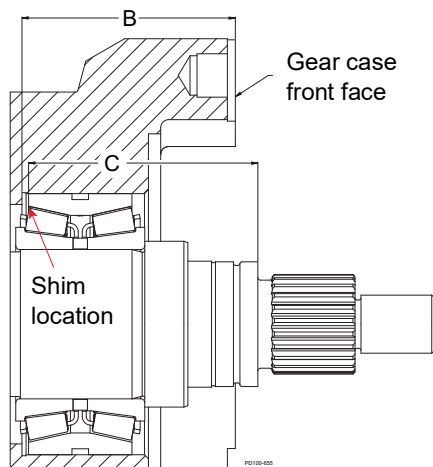
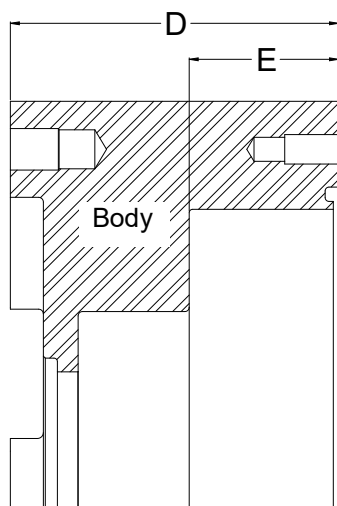

Figure 282 - Measure B & C
Figure 283 - Measure D & E
- When installing the shafts in the gear case, shim behind the front bearing to achieve the proper backface clearance between the back of the rotors and the body. (See Figure 282.) The backface clearance must be equal for both rotors to prevent the rotors from hitting each other during operation.
- If it is necessary to calculate the required shims for replacement shafts, bearings or both, refer to Figure 282 and Figure 283; carry measurements and calculations to three decimal places (e.g. 0.059).
- Measure "B" in the gear case and "C" on the shaft (Figure 282).
- Measure "D" and "E" on the body (Figure 283).
- Place the shims in the gear case, resting against the shoulder in the front bearing bore. (See Figure 282.)